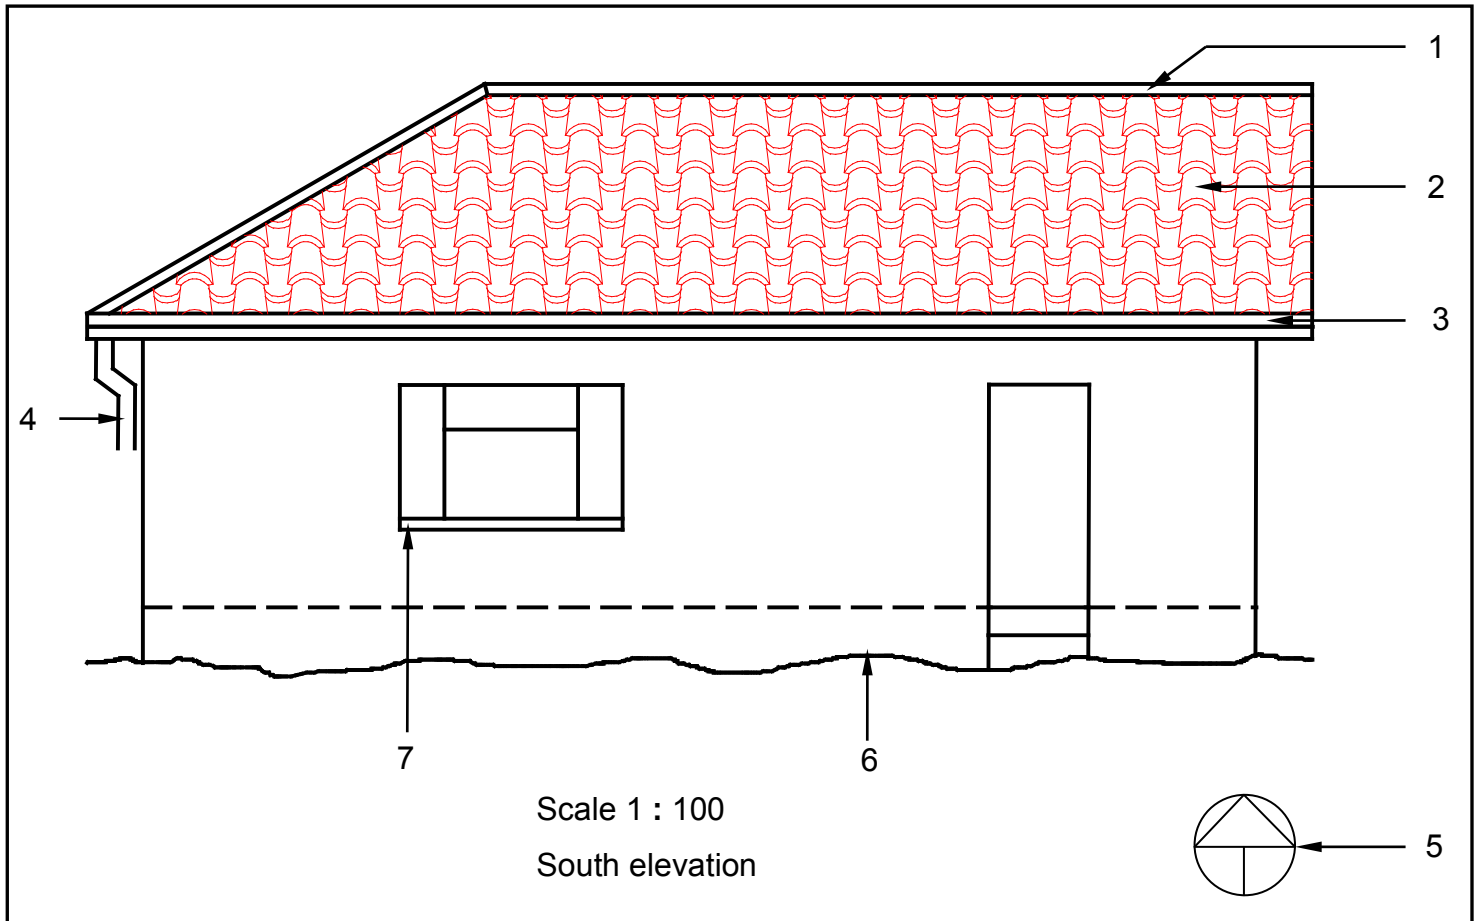

FIGURE 6.1
6.1 FIGURE 6.1 below shows the south elevation of a proposed dwelling.